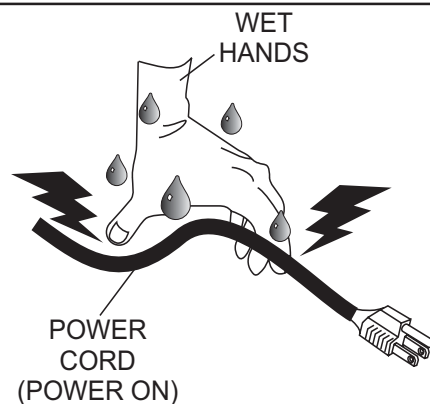

**Figure 10. Submersible Pump Upright Position (Incorrect)**
2. Make sure the pump is always placed in an upright position, not tilted (Figure 10). Never position the pump directly on a soft, loose bottom. Remember to attain maximum pumping capacity and prevent excessive wear, position the pump so it will not burrow itself into sand or clay.